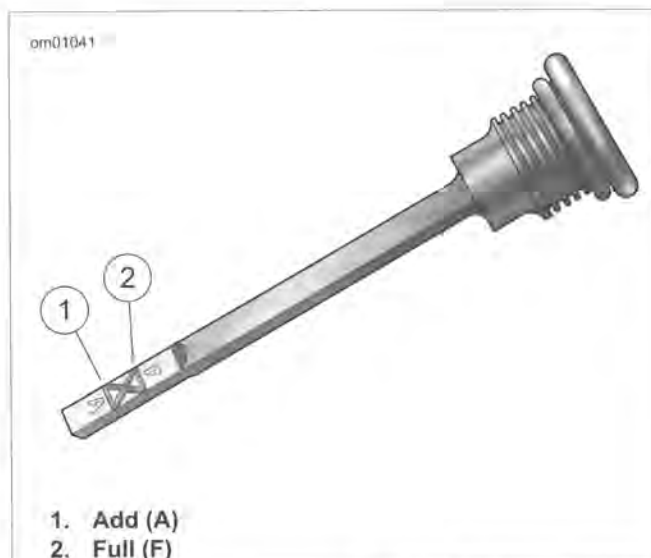

Figure 1-16. Transmission Dipstick Lubricant Level
4. See Figure 1-16. Remove dipstick. Check lubricant level on dipstick.